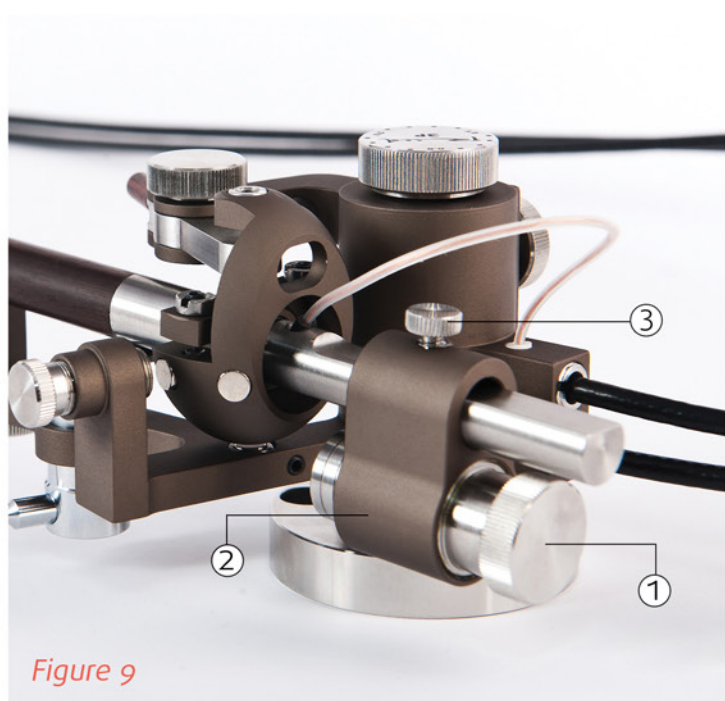

Figure 9
3. VERTICAL TRACKING FORCE (VTF) ADJUSTMENT (Figure 9)
a) Screw counterweight (1) out of the frame (2) until front of a counterweight aligns with frame's surface (i.e. it should not stick from a frame).
c) After setting the balance fasten counterweight frame with a screw (3).
d) Adjust VTF by screwing in/out the counterweight (1) and check VTF setting using scales.